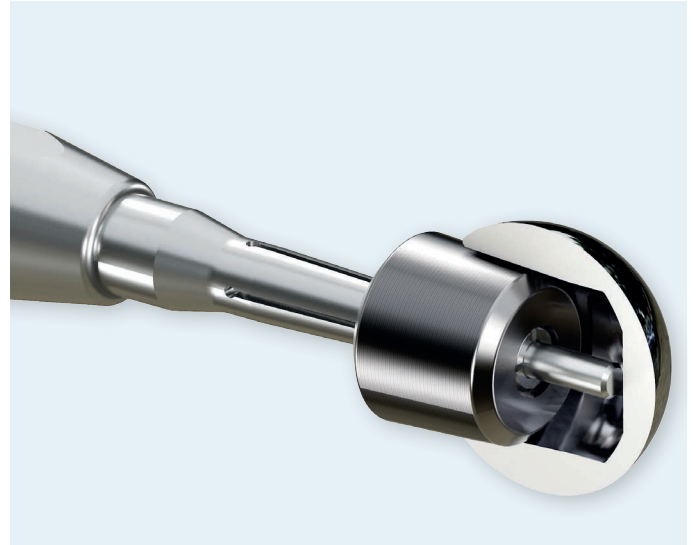

Figure 28 Pushing off the head
- Rotate the handle clockwise until the head has been released from the adapter (Fig. 28)